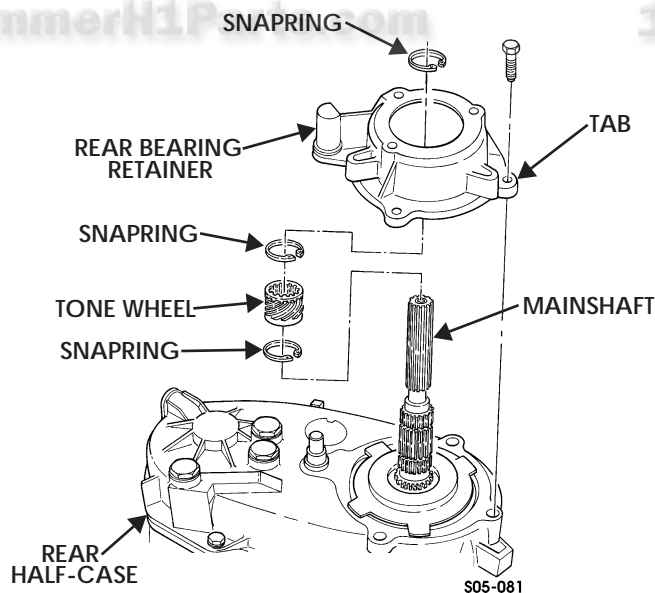

Figure 5-134: Mainshaft Snapping
8. Remove snapping from mainshaft (Figure 5-134).